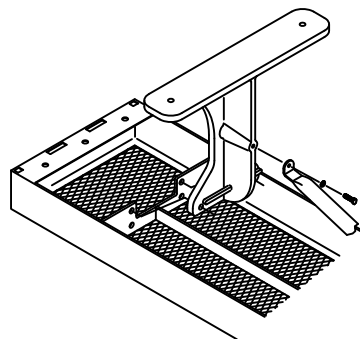

FIG. 4
Invert seat top (B-) upside down on a flat surface. Attach both Gullwing legs (D1) to the inside of the seat's mounting brackets, see FIG. 4. Use two, per each leg, (I) and (G) using two (F) and one (K) per (I). Attach brace (D2) to leg using one (H) and (F), see FIG. 4. Attach other end of brace to seat support using one (E) and (G) using two (F) and one (K) per (E), see FIG. 5. Tighten all fasteners with wrenches and set bench upright.